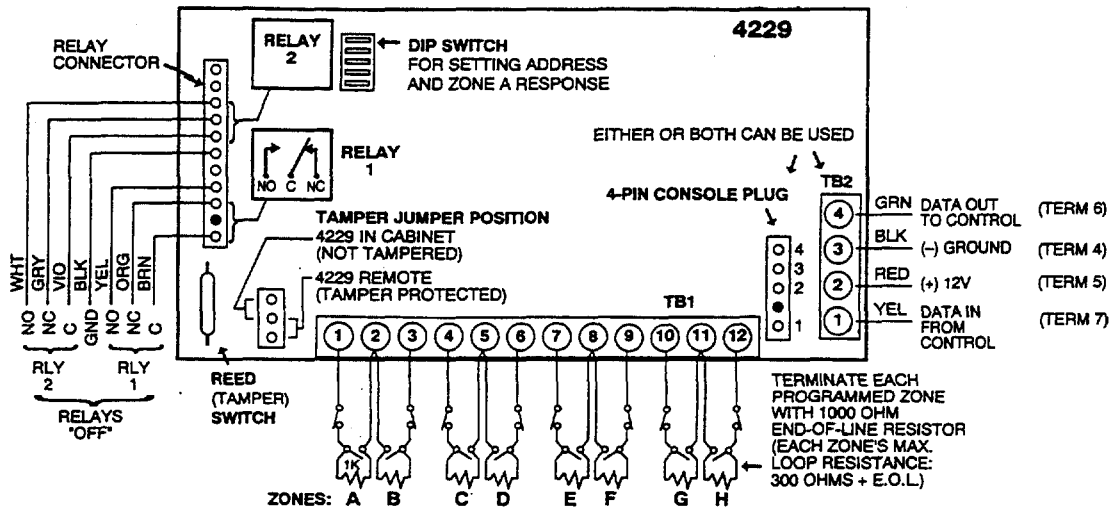

Figure 11. 4229 Connections to Control
1. **Connect the 4204/4229 to the control's Partition 1 remote keypad terminals (4-7),** using the connector supplied with the 4204 and 4229. Use standard 4-conductor twisted cable for long wiring runs. See Figures 11 and 12.